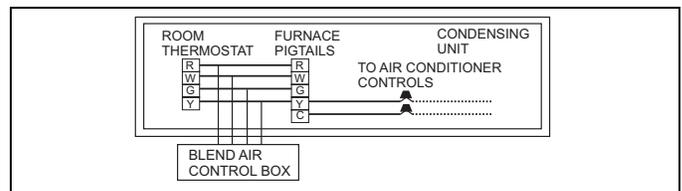

FIGURE 20: Wiring for Blend Air Accessory
3. Connect thermostat wires to the furnace when installing blend air accessory as shown in Figure 20.